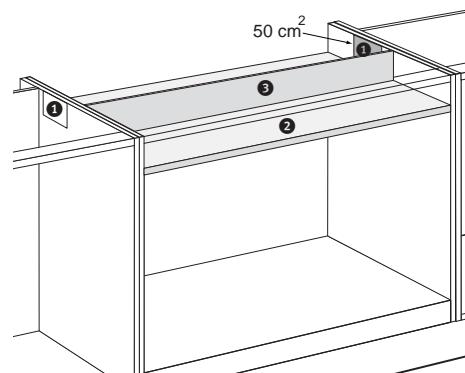

Fig. 12
- Saw out the ventilation opening(s), making sure that the total surface of the holes is a minimum of 100 cm2. See fig. 12, for example, showing 2 holes of 50 cm2.